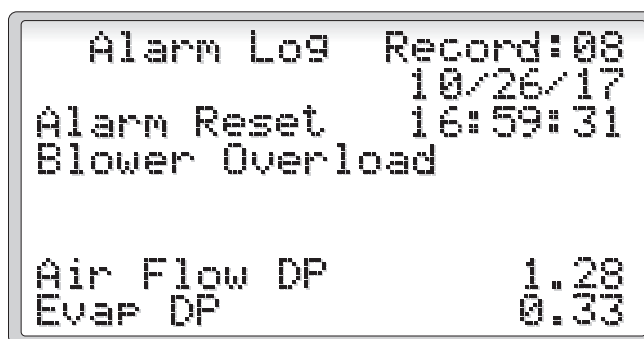

Figure 71
3.15 Alarm Log (Figure 71)
The Alarm Data Logger Screen is accessible from the Alarm Reset screen (see Figure 71) by pressing the **ENTER** key. This screen shows records of the alarm log. The bottom two lines will show the pertinent data that was recorded when the alarm occurred. Use the **UP** and **DOWN** keys to view other records.